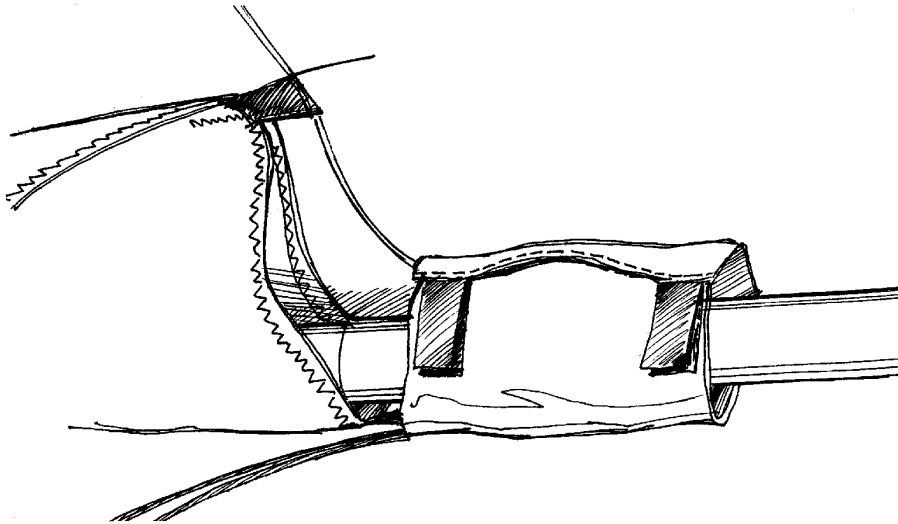

Fig.43
4.1.6. Detach the hook of the top rear wire from the kingpost and attach it to the kingpost hole in the sail. Move the kingpost down. Fit the protective bag over the keel tube/rear wires junction (Fig.43).